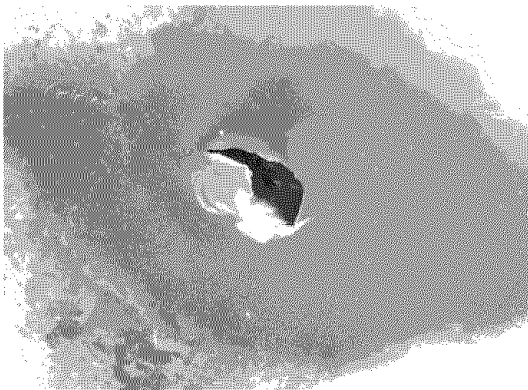

FIGURE 9: Burned through heat exchanger
d. Burn Through. See Figure 9.